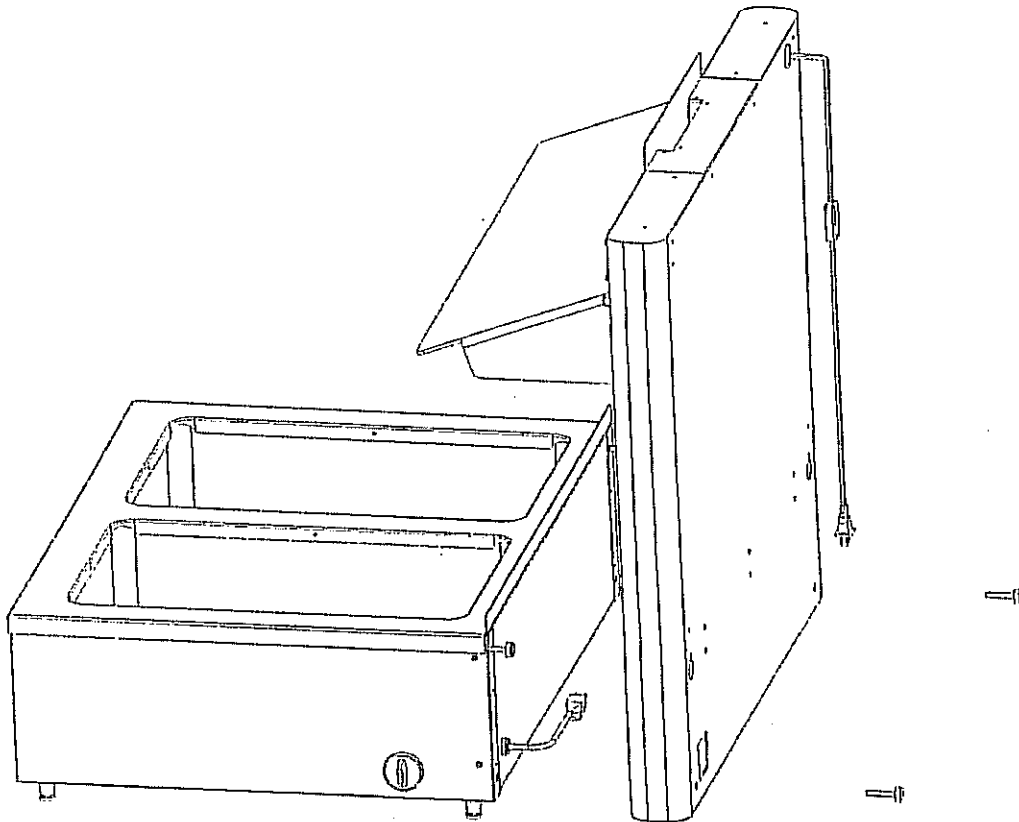

Figure 3.5 Back Panel Removal and Installation
5. The Back Panel may be removed in order to better clean the merchandiser. Remove panel by first removing the bottom thumbscrews and loosening the top thumbscrews so that  $\frac{3}{4}$  of an inch of the threads are showing. Lift Back Panel so that the keyholes pass up and over the top thumbscrews' heads (figure 3.5, pg 10). Remove top thumbscrews and finish wipe down.